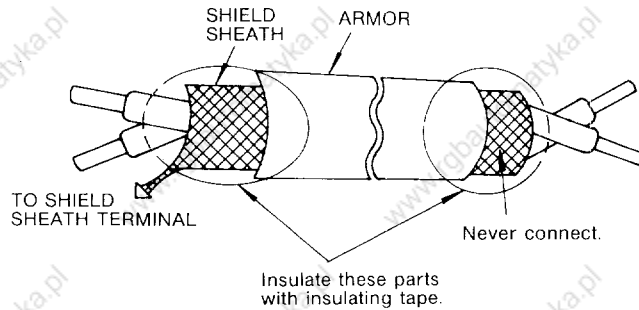

Fig. 4.2 Shielded Lead Termination
(1) Control signal leads (1CN to 3CN) must be separated from main circuit leads (R, S, T, U, V, W) and other power lines and power supply lines to prevent erroneous operation caused by noise interference.
(2) Use the twisted shielded lead for the control signal line, and connect the shield sheath to any of the controller terminals. See Fig. 4.2. It is recommended that the wiring distance of the signal leads be 20 meters or below.